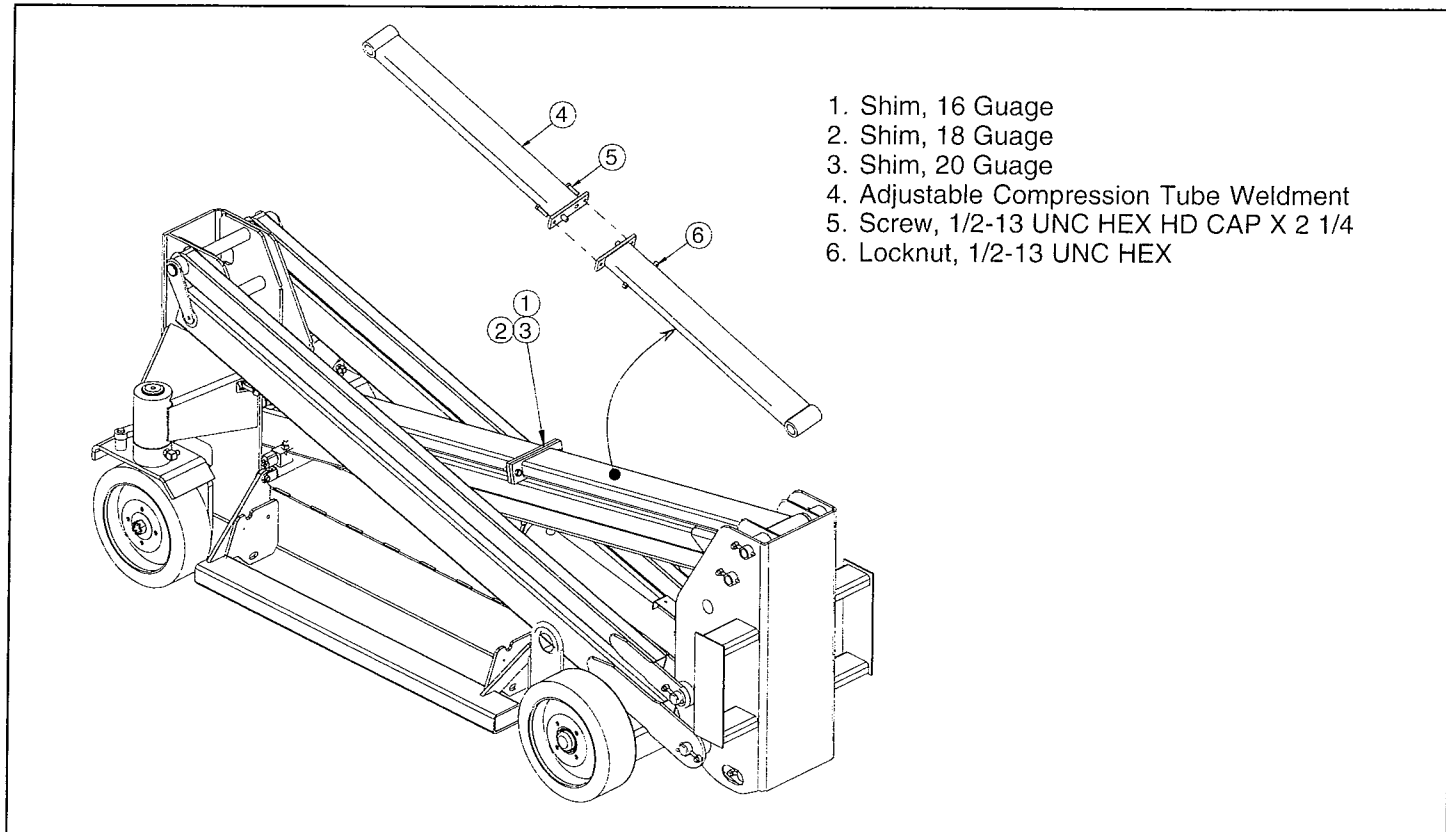

Figure 3-20: Compression Tube Assembly
3.15 Adjustable Compression Tube Tube (Figure 3-20)